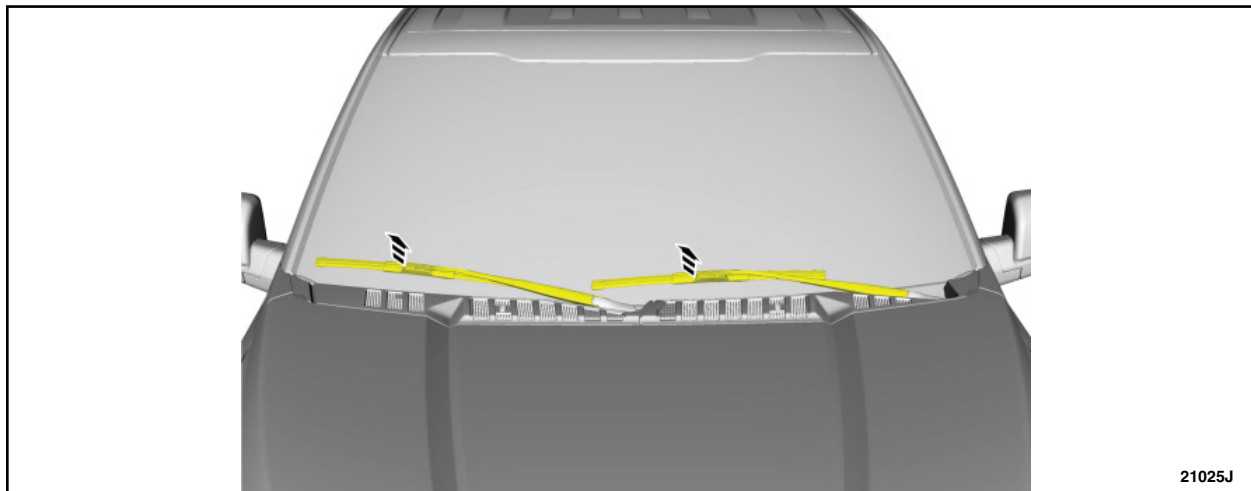

FIGURE 1
1. Raise the windshield wiper pivot arms into the SERVICE-UP position. See Figure 1.